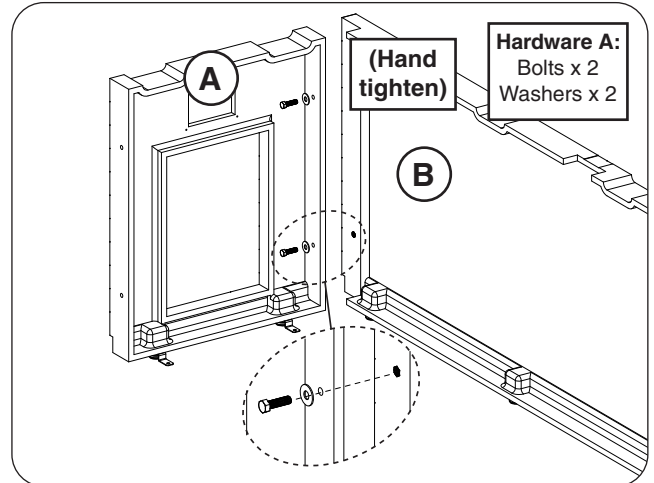

Fig. 7-2 Assemble left side wall and rear wall
Orient the left side wall (A) and rear wall (B) as shown. Carefully align the pilot holes, and insert the hardware (hardware kit A) in the order shown. Hand tighten only. See Fig. 7-2.